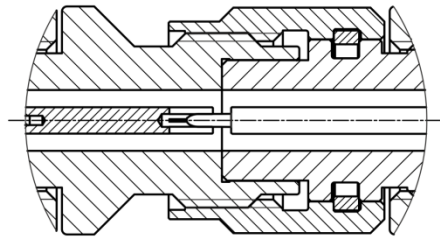

Figure A.3 Connection example
- While holding the device being connected, tighten the connector nut finger tight. Mating plane surfaces of center conductors and outer conductors have to make contact as shown in figure A.3;